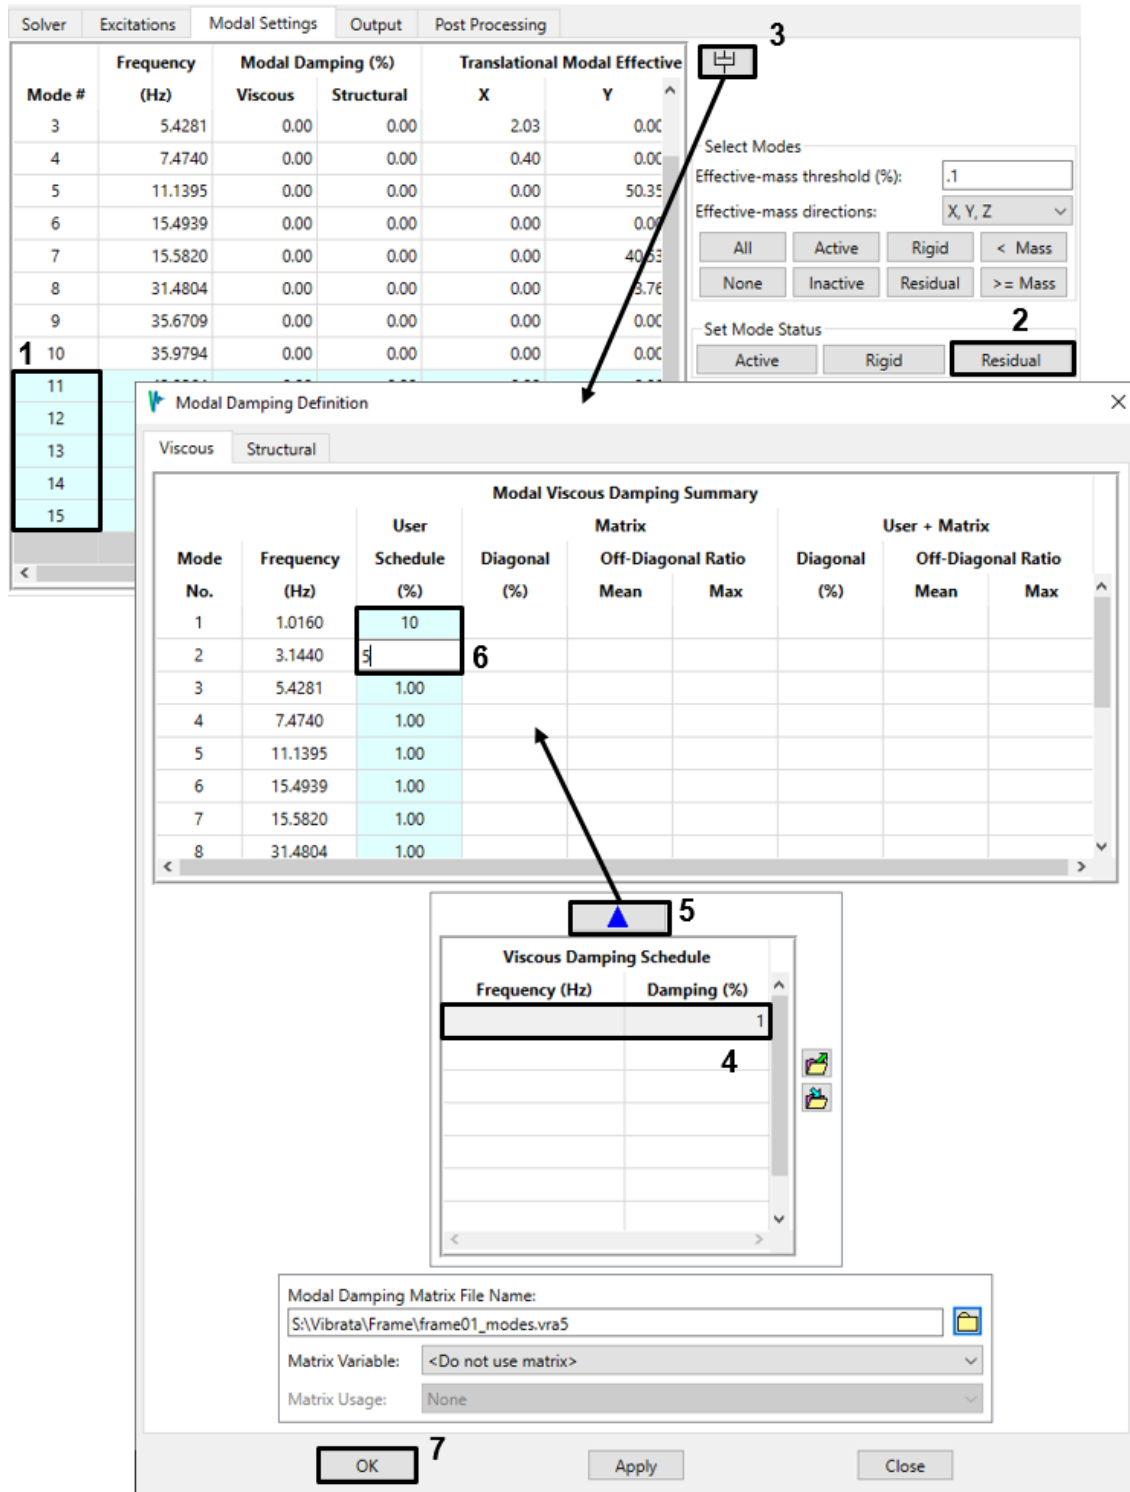

Figure 4-118. Set the damping of the model to 10% for mode 1, 5% for mode 2, and 1% elsewhere.
- Go to the *Modal Settings* tab, select modes 11–15, and set their status as Residual modes. Next, open the damping dialog. Use the damping schedule to set the viscous damping to 1% for all modes, then key in damping of 10% for mode 1 and 5% for mode 2, as in Figure 4-118.